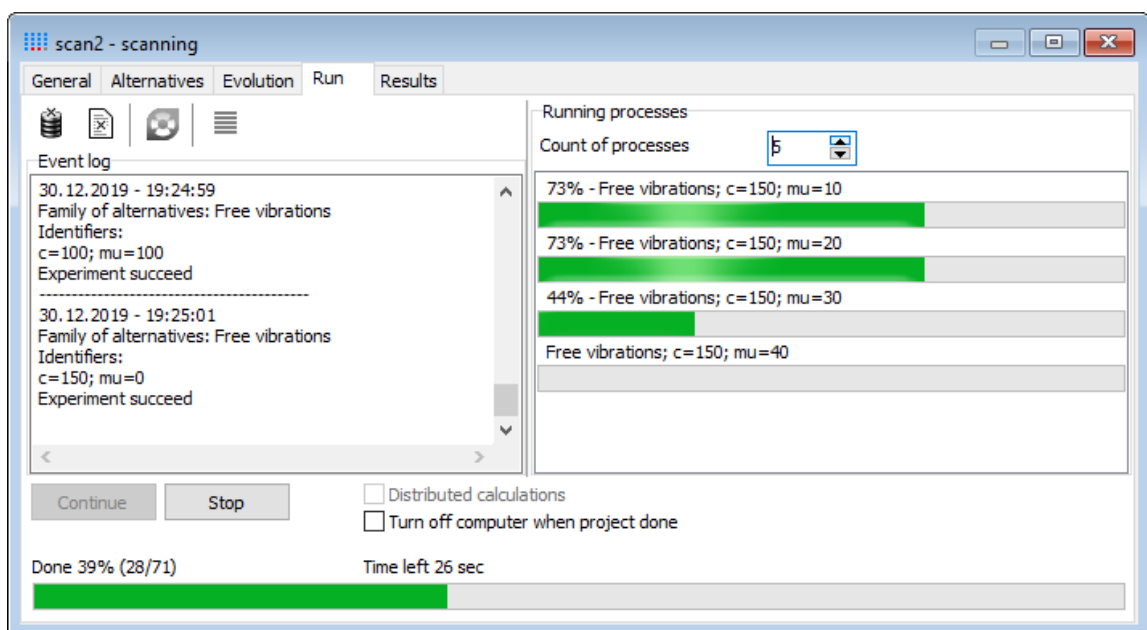

Figure 6.3. Running the scanning project
- The researcher runs the scanning project and all numerical experiments are finished automatically, possibly with the help of **UM Cluster**, see Figure 6.3.